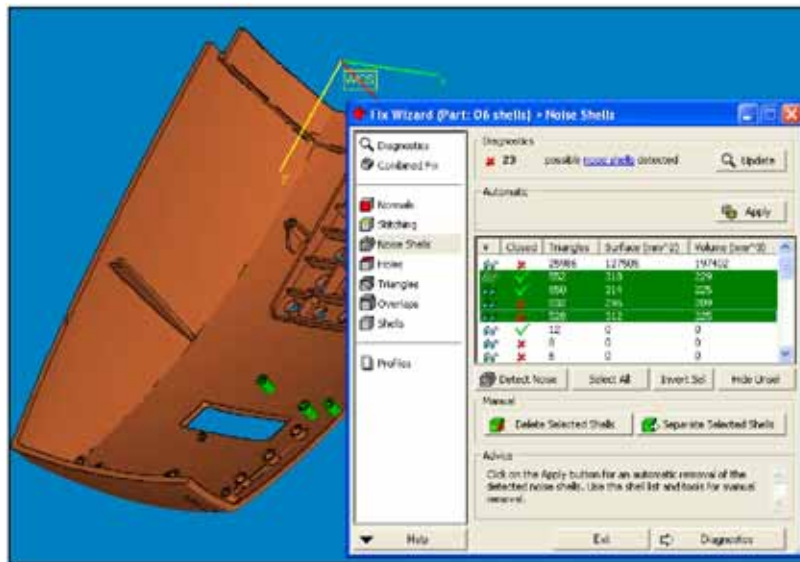

Figure 75: Model to fix - 06 shells.stl
- The model for this exercise is shown Figure 75.